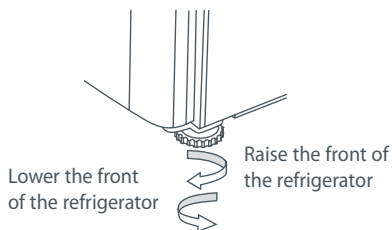

Fig.10 Refrigerator feet
- C** Adjust the front feet down until the refrigerator is leaning backward with the front approximately $\frac{3}{8}$ " (10 mm) higher than the back. This will ensure a good door closing action (refer to Fig.10).